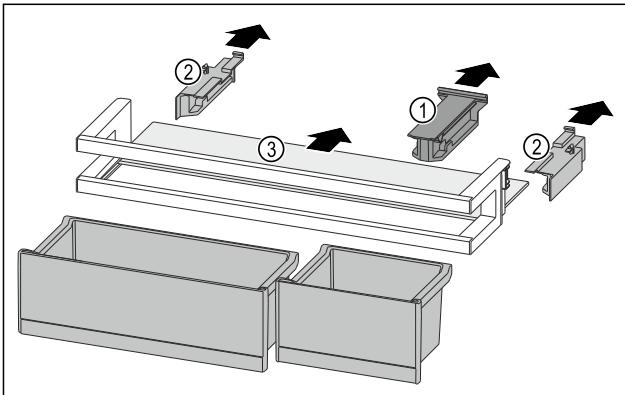

Fig. 116
- ▶ Pull off the retaining part Fig. 116 (1).
- ▶ Pull off the side part Fig. 116 (2).
- ▶ Remove the shelf Fig. 116 (3).